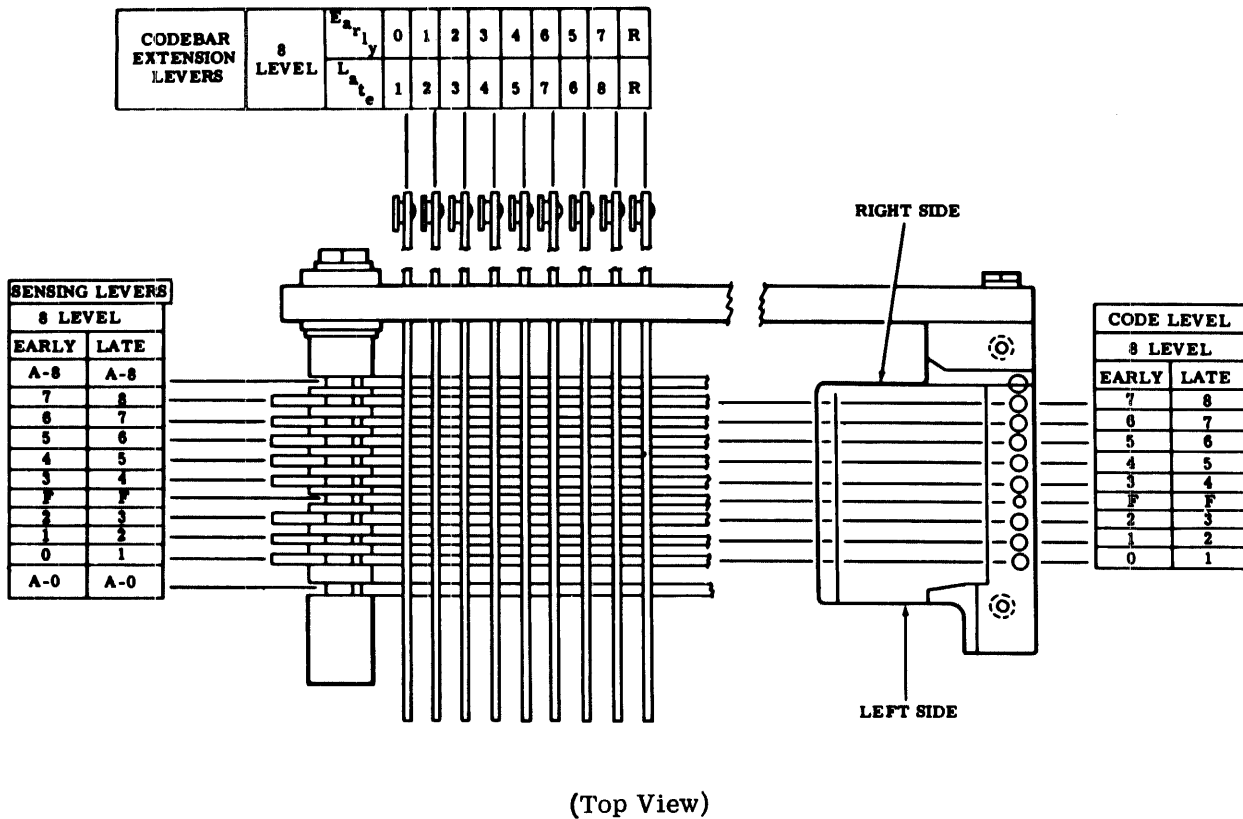

Figure 2 - Tape Punch Code Level Cross Reference Chart
1. 15 The relationship between code levels, sensing levers, and codebar extensions is illustrated in Figure 2.
(Figure 2) and its associated pawl.
Note 2: For tape punches equipped with automatic controls, the requirement will be checked between the second from the left sensing lever (Figure 2) and its associated pawl.
Note 3: There should also be some clearance between the rightmost sensing lever (Figure 2) and its associated pawl.